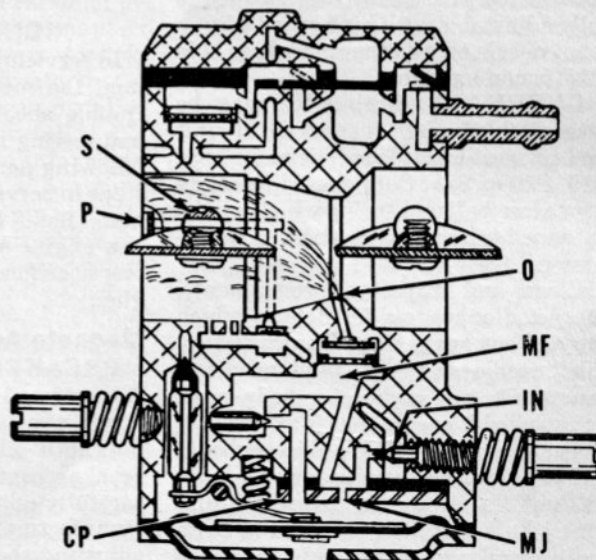

Fig. S18—Cross-sectional view of Walbro model HDC carburetor showing accelerator pump pulse passage (P). Refer to text for operation.
Model HDC carburetors with accelerator pump have a pulse passage (P—Fig. S18) in carburetor body which allows crankcase pulsations to enter idle fuel circuit. The pulse passage is opened and closed by throttle shaft (S).